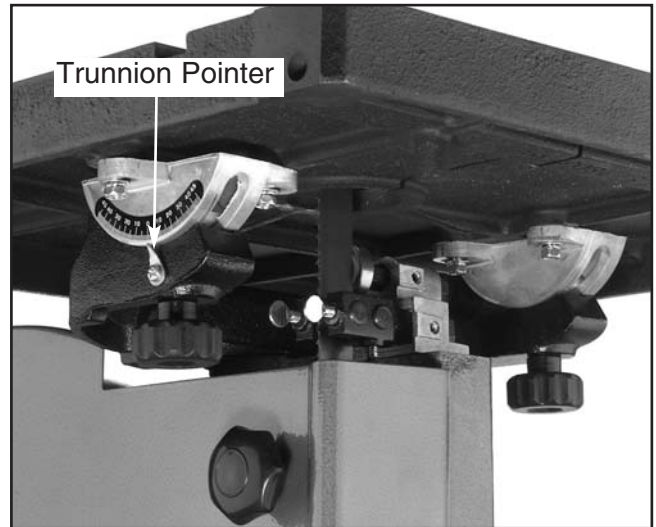

Figure 20. Table mounted on trunnion casting.
4. Using the two plastic knobs from your hardware bags, secure the table to the trunnions as shown in **Figure 20**.